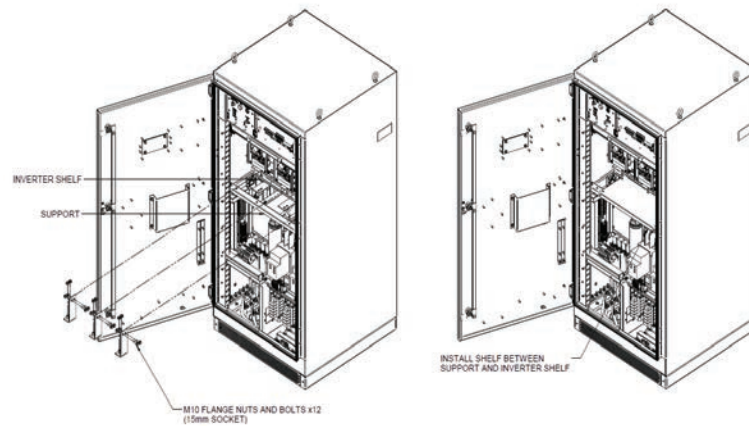

Figure 36. Shelf installation for pole(s) servicing.
- ☐ For IGBT inverter pole assembly servicing, install the service shelf in the PCS as illustrated in Figure 36.